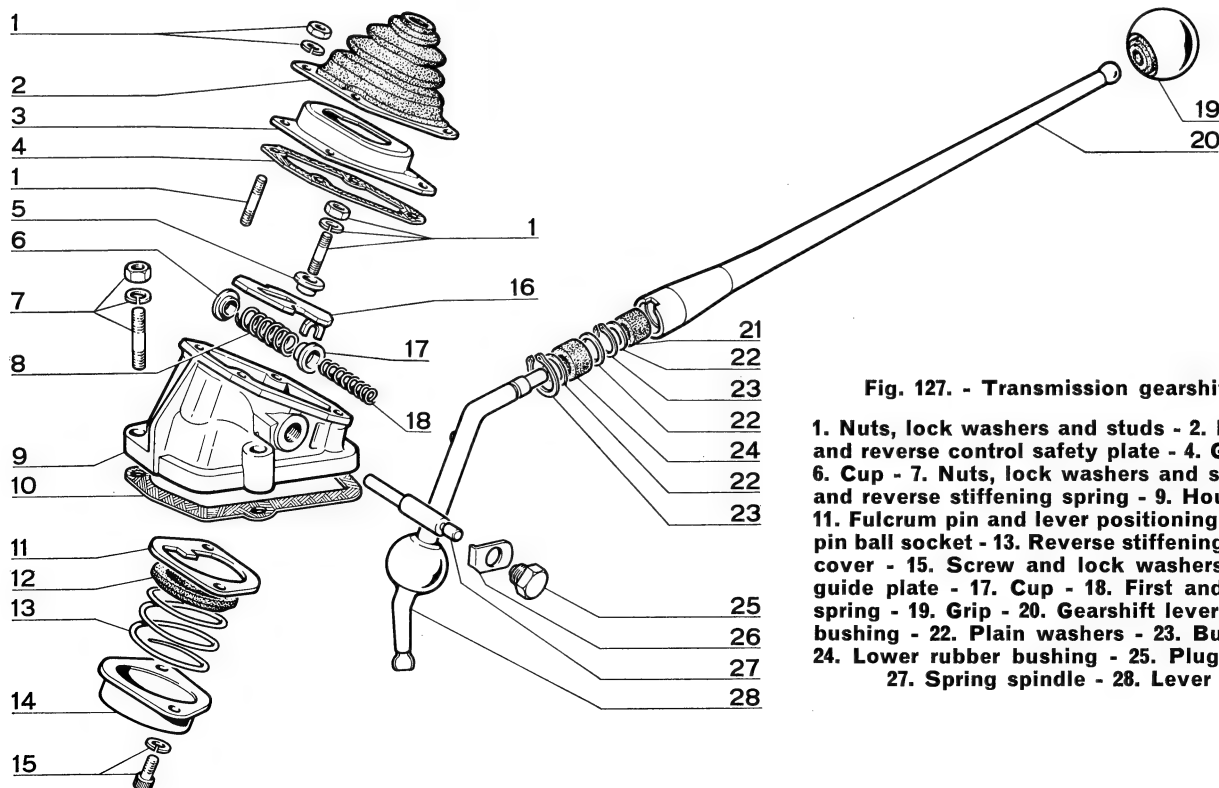

Fig. 127. - Transmission gearshift mechanism.
Slide the overdrive and reverse stiffening spring (8, fig. 127) in place in housing (9), setting end cups (6 and 17).